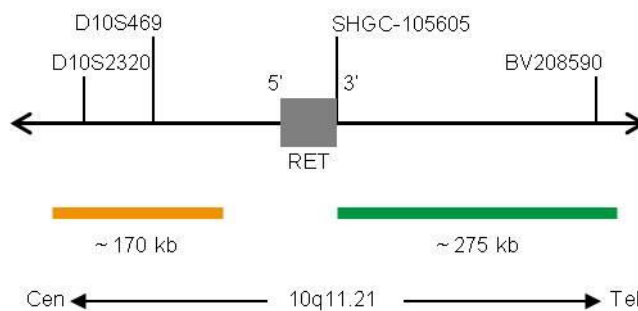

Fig. 1: RET Probe map (not to scale)
- ZyGreen (excitation 503 nm/emission 528 nm) labeled polynucleotides (~6.0 ng/ μ l), which target sequences mapping in 10q11.21* (chr10:43,626,274-43,902,346) distal to the RET breakpoint region (see Fig. 1).
- ZyOrange (excitation 547 nm/emission 572 nm) labeled polynucleotides (~4.0 ng/ μ l), which target sequences mapping in 10q11.21* (chr10:43,340,888-43,510,171) proximal to the RET breakpoint region (see Fig. 1).